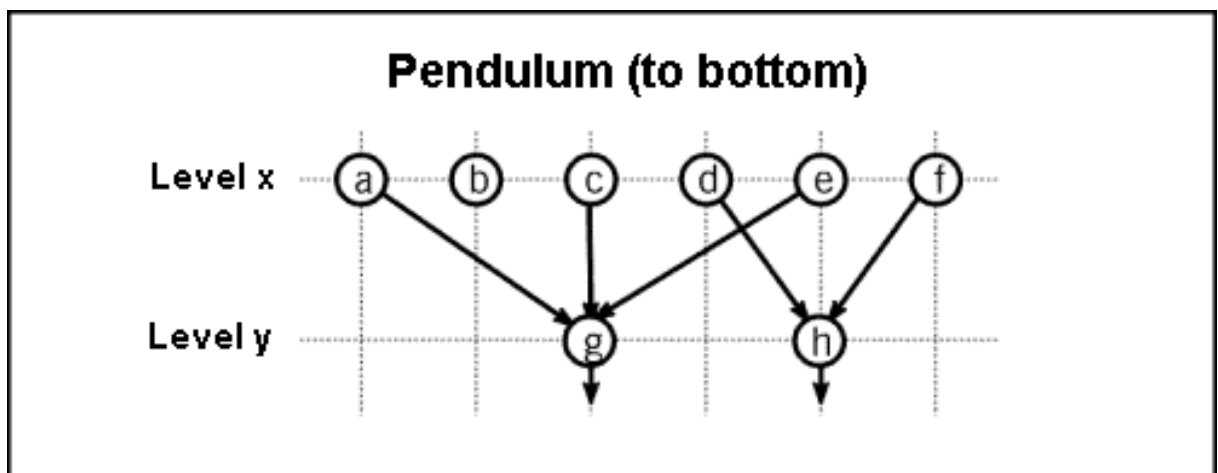

Figure 136: Schematic representation - Method pendulum down
- Method pendulum down:** The horizontal position of an object at one layer is optimised according to the position of objects at hierarchically higher layers, which are linked with it (as far as possible) (see fig. 136, p. 169). We recommend that this option should be activated with a maximum of 10 iterations.